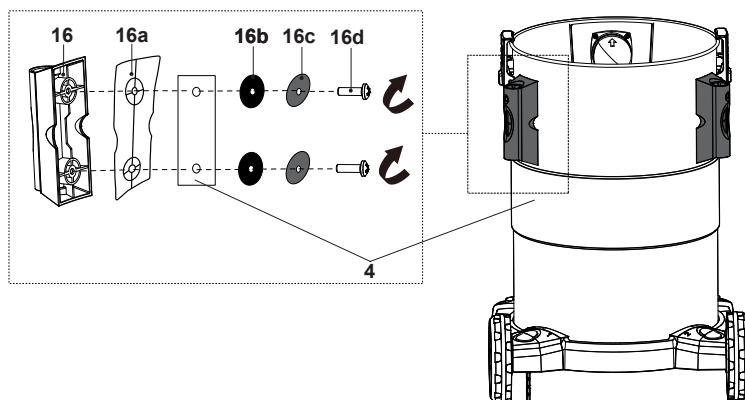

Fig. 5
- > Align the screw holes on the handle sockets (16), PVC washers (16a), rubber washers (16b) and washers (16c) with the screw holes on the tank (4). Secure the connection with the screws (16d) clockwise (Fig. 5).